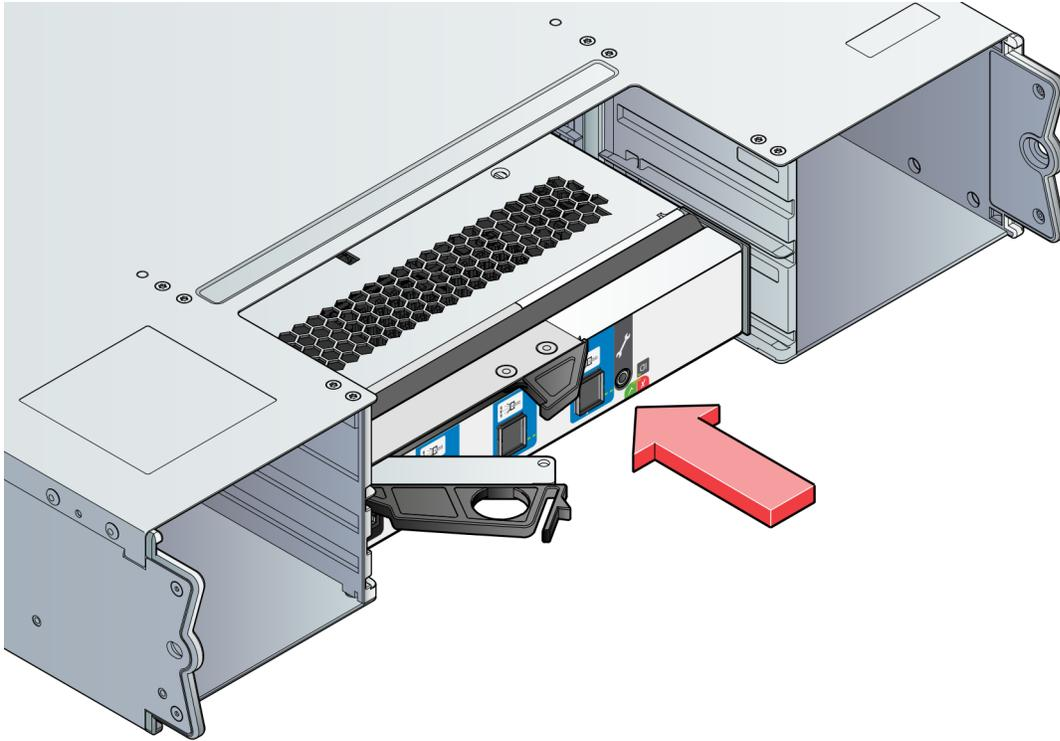

Figure 102. Installing an ESM
2. With the latches in the open position (see Figure 102 “Installing an ESM ” on page 94), slide the module into the enclosure until the latches engage.